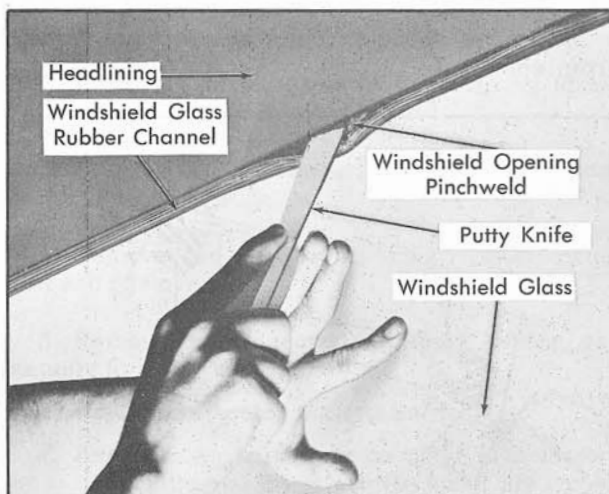

Fig. 17-4 Windshield Glass Removal
4. On inside of body, loosen lip of rubber channel from pinchweld flange along top and sides of windshield by carefully applying pressure with palm of hand to edge of glass as shown in Fig. 17-4. At same time, use a putty knife or other suitable tool and carefully assist lip of rubber channel over pinchweld flange.